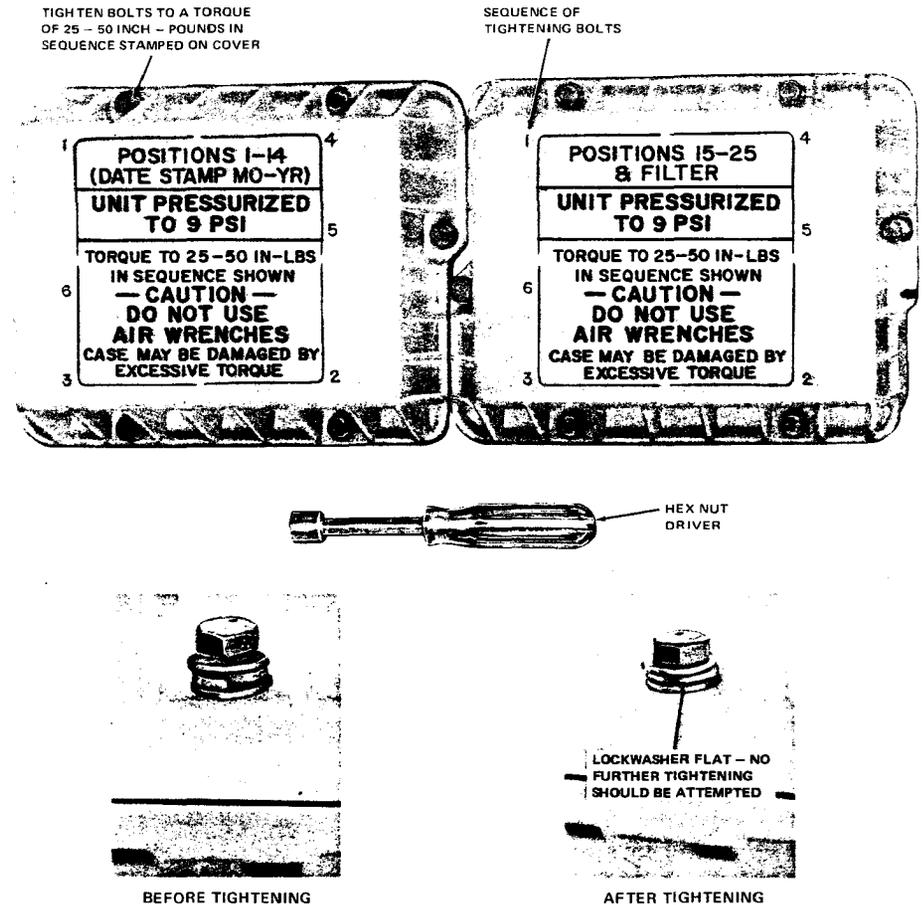

Fig. 37—Bolt Tightening Operation
- Using a 9/16-inch hand held hex nut driver, tighten all bolts in sequence stamped on cover (Fig. 37) to a torque of 25 to 50 inch-pounds. Lockwashers flatten at this torque, and no further tightening should be attempted. The bolts shear at 125 inch-pounds.